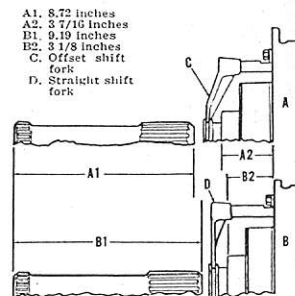

Fig. 215—Schematic method of identifying the late (wide) planetary unit (A) and early (narrow) planetary unit (B). Many parts are not interchangeable.
A change has been made in planetary shift rail (2) and fork (18) which corresponds with a change in the width of the dual range planetary gears. On early models which use the narrow planetary gears, rail (2) is 20-11/16 inches in length and fork (18) is straight. On late models using the wide planetary gears rail (2) is 20-1/32 inches in length and fork (18) is offset to rear when installed. Refer also to paragraph 183 and Fig. 215 and be sure the correct parts are installed if any of the parts are renewed. Tractor serial numbers corresponding to the change are not available.
Two different planetary units have been used. Refer to Fig. 215. The late (wide) unit (A) and early (narrow) unit (B) can be easily identified by the shape of shifter fork (C or D), or by measuring the distance (A2 or B2) from rear of transmission housing to rear edge of planet carrier. The distance (B2) is 3 1/4-inches for early units; or 3-7/16-inches (A2) for late units. Specified length of rear drive shaft is 9.19-inches (B1) for early (narrow) planetary unit or 8.72-inches (A1) for late (wide) unit. Refer also to paragraph 179 for the correct length of planetary shift rail to be used with the respective planetary units.